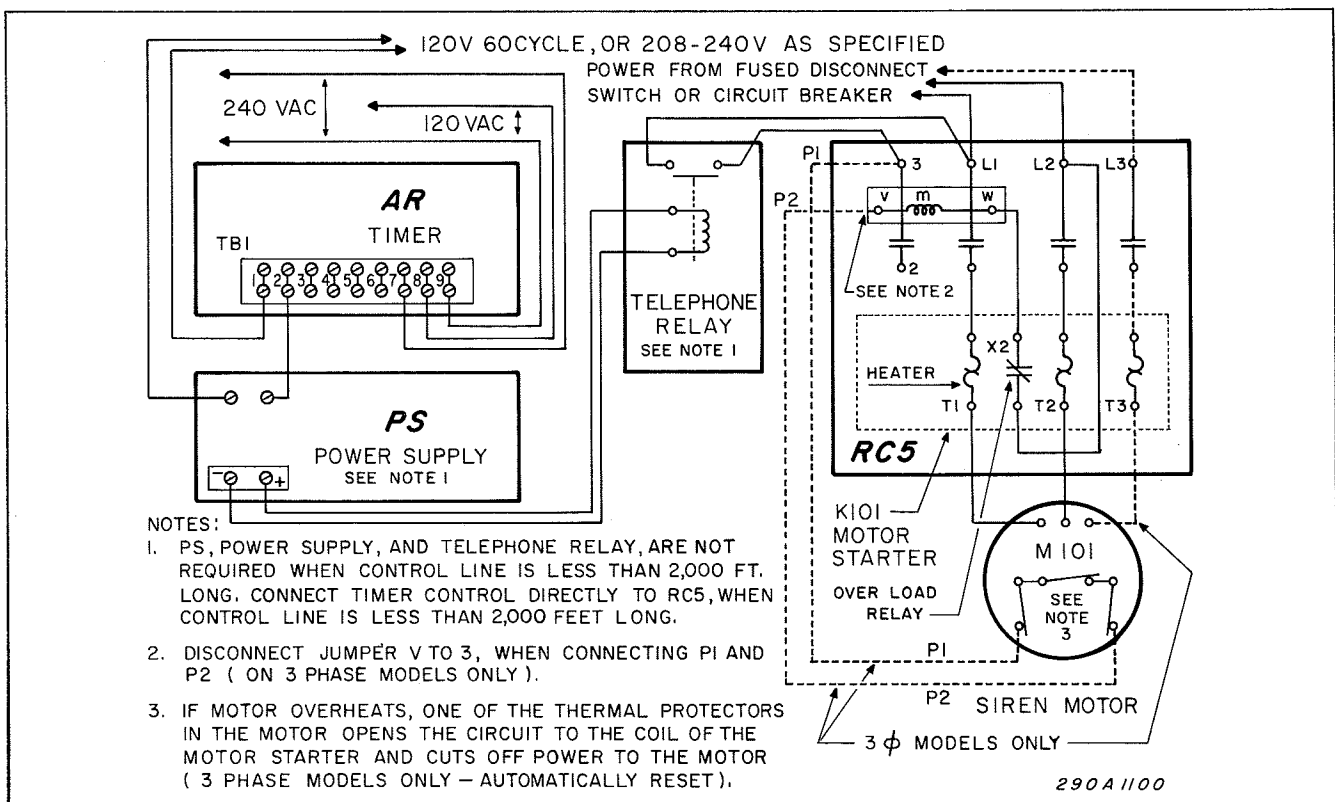

Figure 3-10. RC5 Electrical Connections.
The power and control circuitry of a typical siren installation is shown in figure 3-10. The wiring diagram of the Model RC5 Motor Starter is also shown in the figure. The Model RC5 or RC5W can be used to control all sirens except the Model 2.
To connect the motor starter and siren to the power source and control circuitry, proceed as follows (see figure 3-10):
user must provide an external power supply, such as the Federal Model PS Power Supply, in the siren control circuitry when landline control is used (see figure 3-10).
As shown in figures 3-10 and 3-11, the motor starter includes an overload relay. The relay protects the motor starter and the motor in the event that excess current is drawn. The overload relay is activated when there is sufficient current through one or more of its heaters to cause the heater(s) to expand enough to open the relay contacts. The opening of the relay contacts opens the motor starter control circuit. As a result the motor starter deenergizes, protecting the circuit against damage. After the motor starter deenergizes, the relay contacts reset automatically when the heater(s) cools sufficiently. The overload relay can also be reset manually after approximately one minute.
Three phase (A) motors are designed to operate for a maximum of 15 minutes with at least 45 minutes between 15 minute operations. If the siren is operated for more than 15 minutes, or the 45 minute off-time is not observed, the motor may overheat and be damaged. As a result, three thermal protectors are included in the motor; one for each field winding. As shown in figure 3-10, these three thermal protectors are electrically in series with the control winding (coil) of the motor starter in the RC5. If one or more of the field windings overheat, the associated thermal protector opens the circuit, deenergizing the motor starter coil and turning off power to the motor. After the motor cools off sufficiently, the protector(s) closes and the siren can be reenergized.